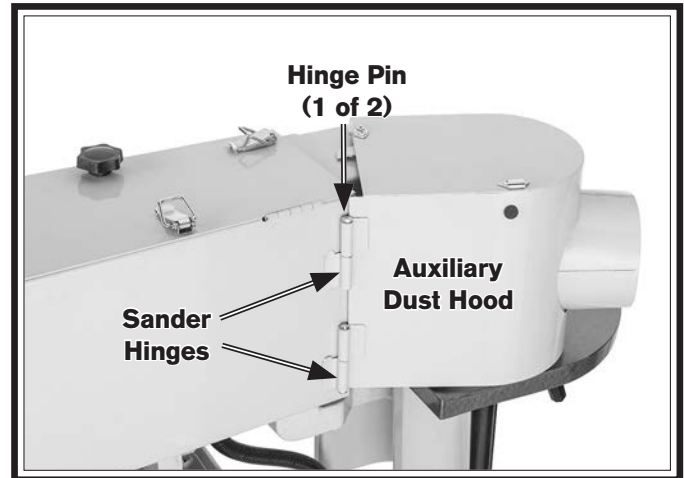

Figure 26. Auxiliary dust hood installed.
- 12.** Align auxiliary dust hood hinges with sander hinges shown in **Figure 26** and secure with remaining (2) hinge pins by tapping pins with rubber mallet until fully seated.